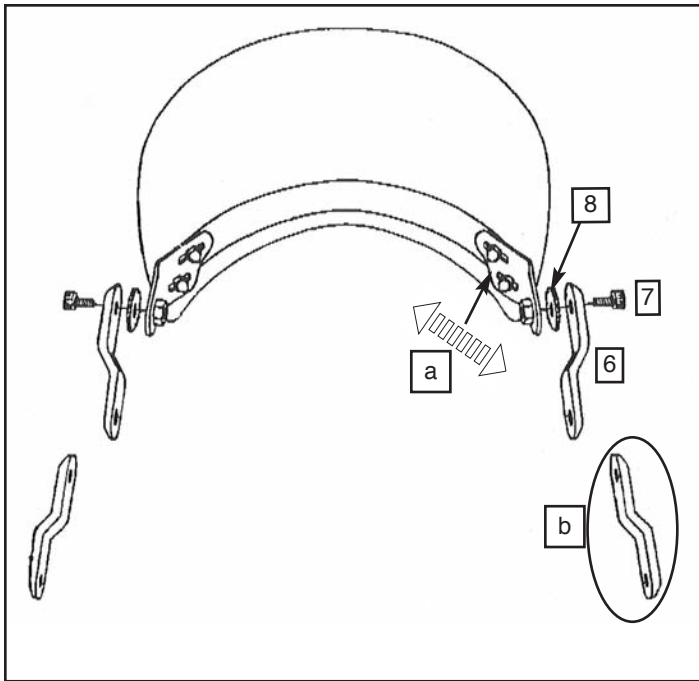

Figure 4
- b. Adjustment of Offset Bracket (6)
7. Change the position of the Offset Bracket (6) and the slotted Plate Bracket for Windshield to fit the motorcycle fork width. **Figure 4**